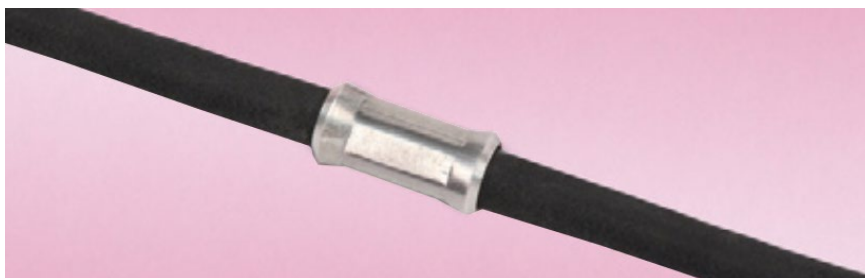

Figure 4 - Model 6001-2 Control Cable
- Reliable connection to standard inclinometer probes (shown in Figure 1) is accomplished via model 6001-2 control cable (Figure 4), which features a lightweight, polyurethane jacket and is 8 mm in diameter. The control cable contains a central stainless steel aircraft wire and has breaking strength of 500 lb.